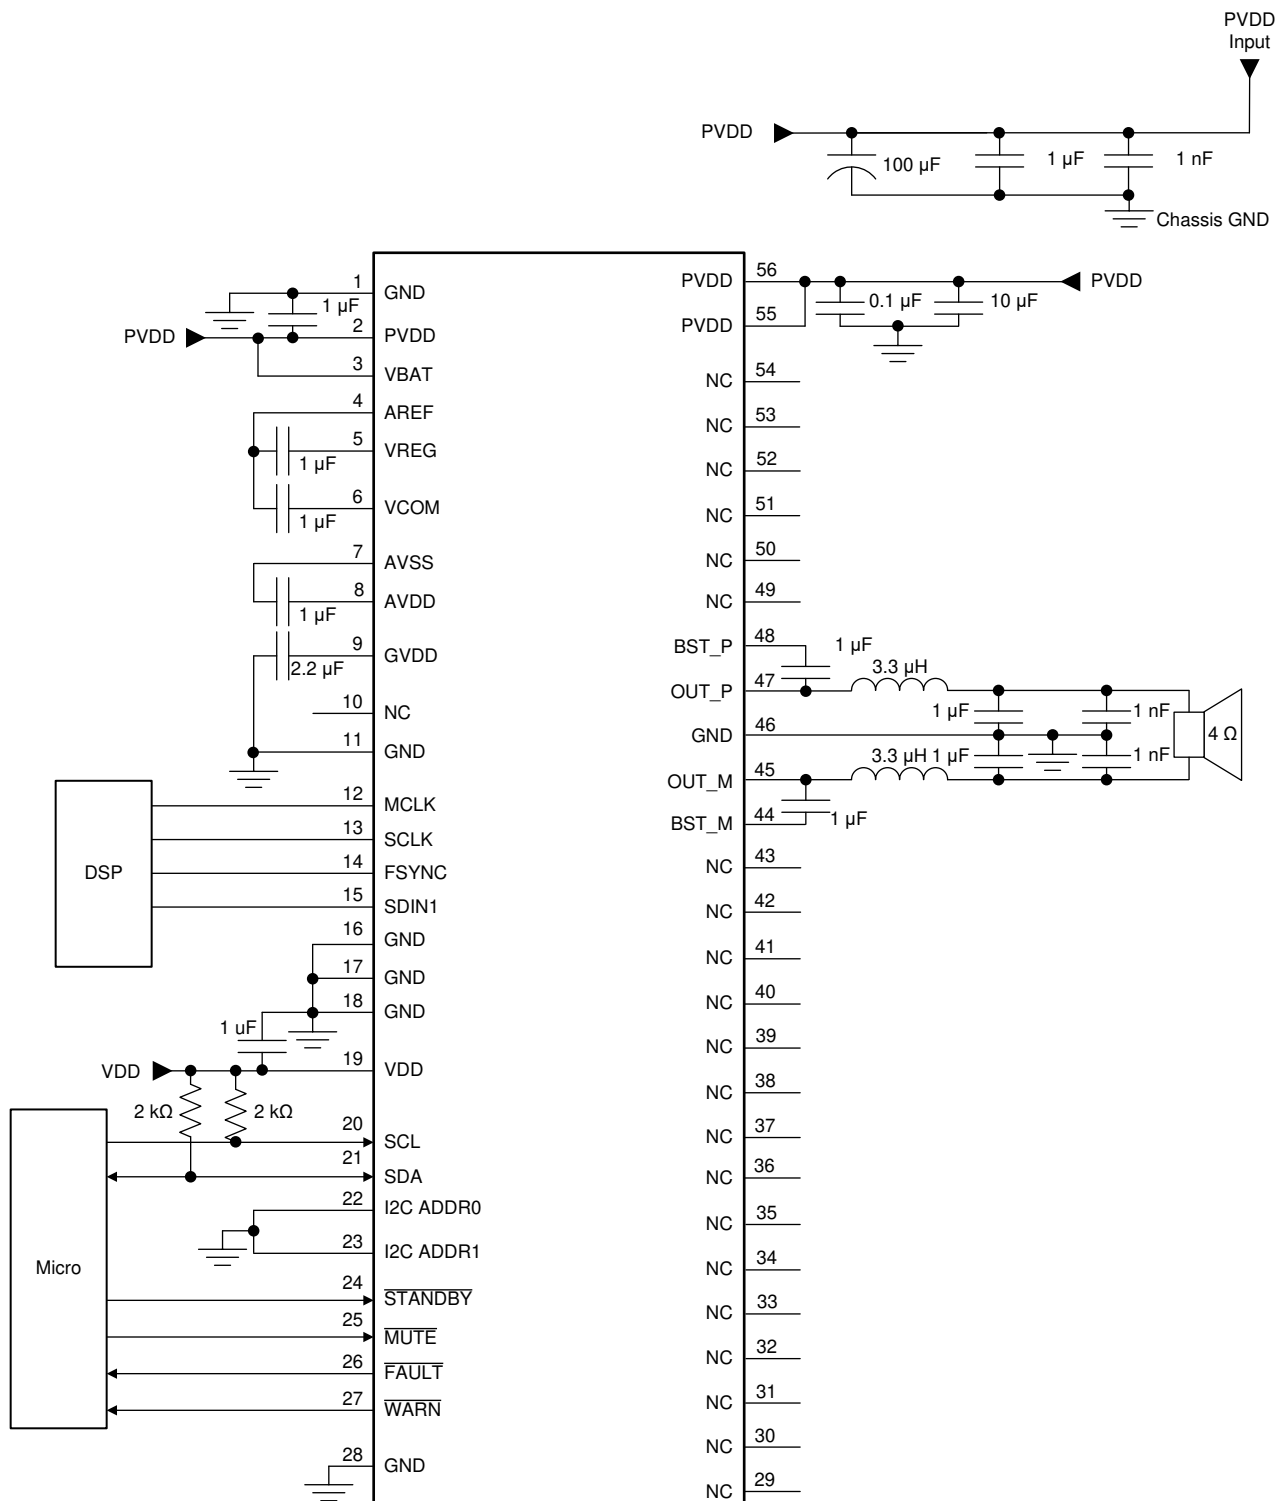

图 66. TAS6421-Q1 Typical Mono-Channel BTL Application Schematic
图 66 shows the schematic of a typical mono-channel solution in a typical use case.
- With the requirements, adjust the typical application schematic in 图 66 for the input connections.